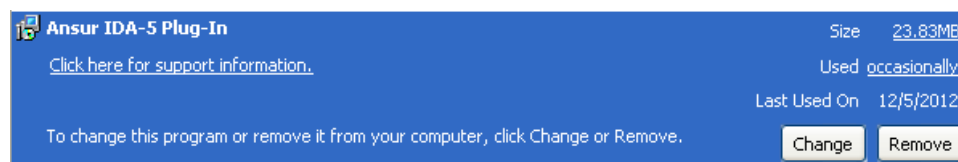

Figure 2-3. Remove IDA-5 Plug-In
3. With the entry highlighted, click the **Remove** button as shown in Figure 2-3.